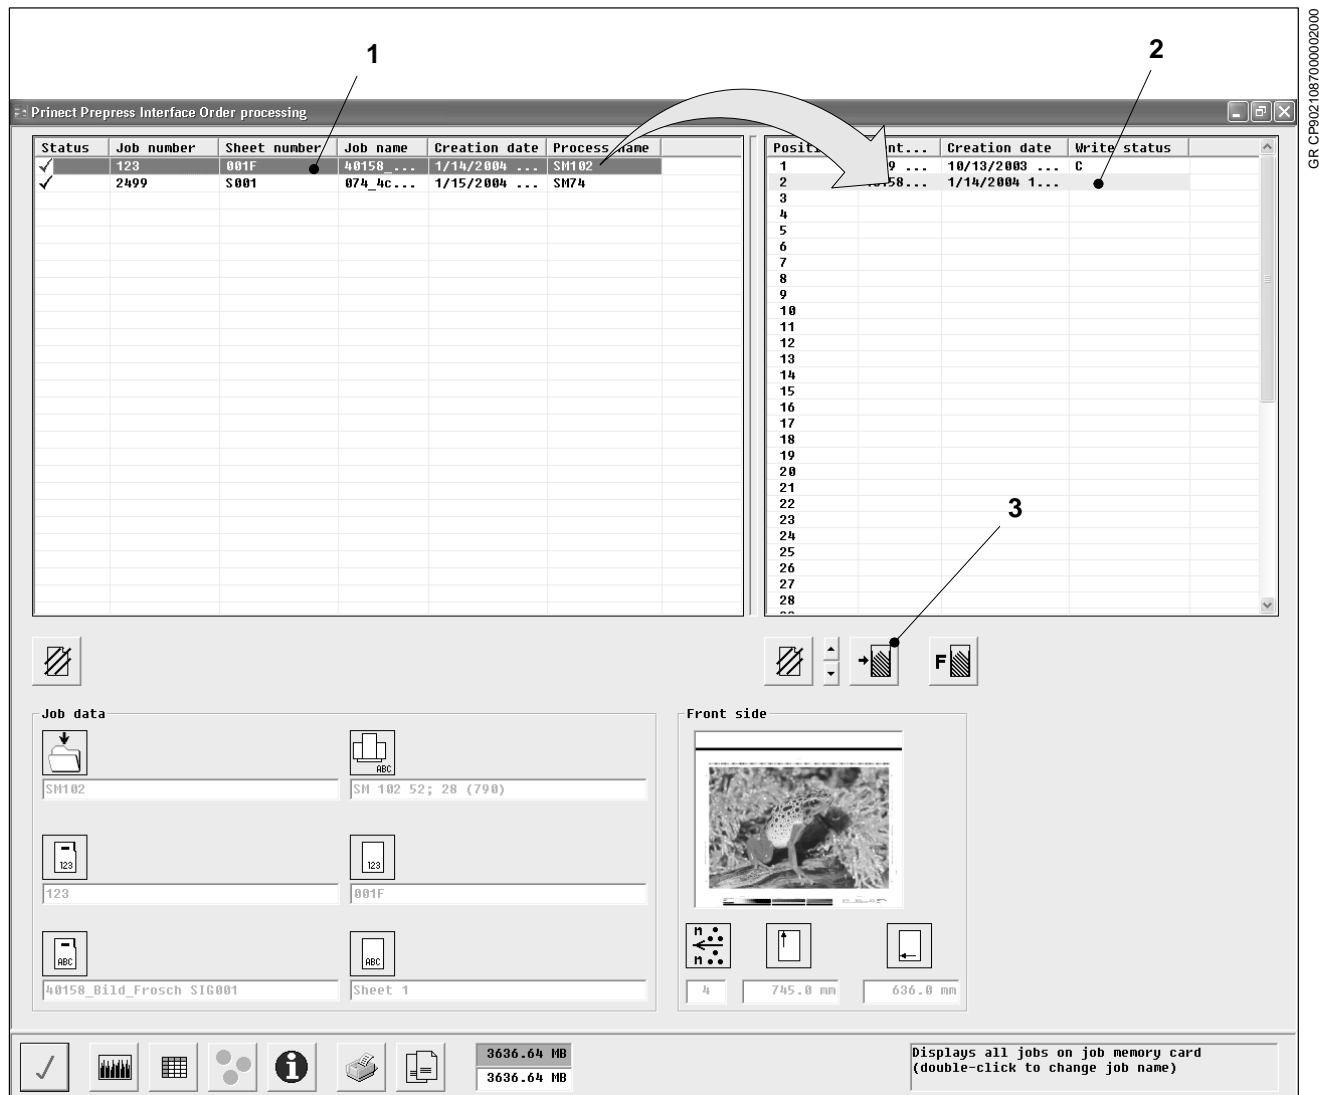

Fig. 28 The Prinect Prepress Interface job list section
1. In the *Prinect Prepress Interface* job list section click on the job whose ink zone presetting values you wish to copy to the Job Memory Card (Fig. 28/1).
The job now appears in the *Job list of the Job Memory Card* section (Fig. 28/2).
3. Save the job to the Job Memory Card by clicking on the *Write to Job Memory Card* button (Fig. 28/3).